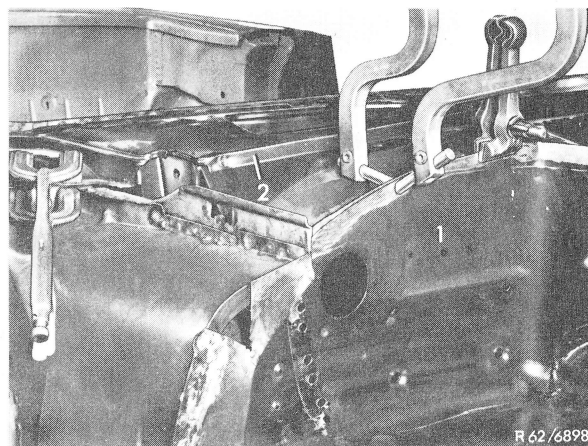

Figure 8
**29** Spotweld front wall (1) and center piece outside under windshield (2) (Fig. 8).
**31** Spotweld center piece under windshield inside (13) and center piece outside under windshield (2) together in range of windshield aperture.